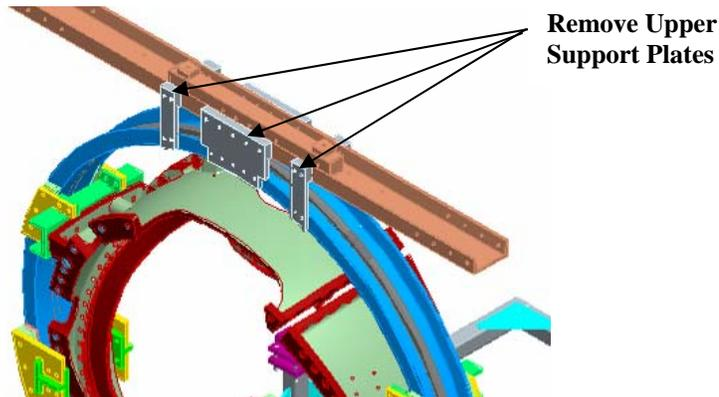

Figure 3- Upper Support Plates
- Install the upper support plates that secure the support ring to the support/lift beam. Using a pneumatic impact wrench secure the hardware to the appropriate torque value. [See section 4.3] This operation must be verified prior to proceeding. See Figure 3- Upper Support Plates
- Using a pneumatic impact wrench remove the upper support plates between the supporting and lift beam. This operation must be verified prior to operating turning fixture. [See Figure 3- Upper Support Plates]